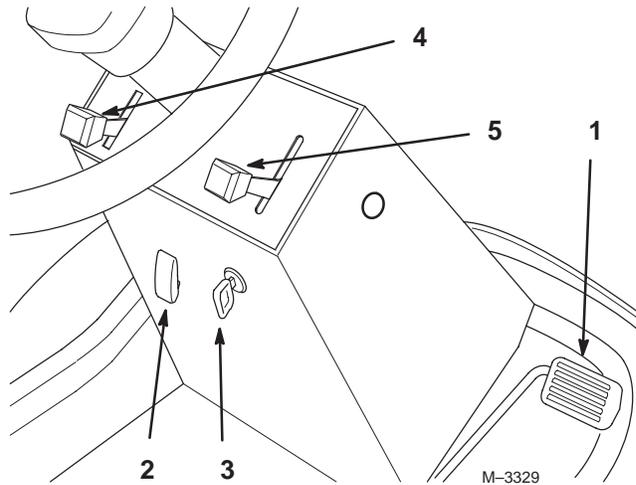

Figure 9
1. Move the throttle lever to slow (Fig. 9).
2. Turn the ignition key to off (Fig. 9).
1. Release pressure on the traction pedal to stop movement. (Fig. 9).
2. To engage lift cover and move the PTO switch to the on position (Fig. 9).
1. Closing the cover moves the PTO switch to the off position (Fig. 9).
1. To go forward, place your foot on the traction pedal (Fig. 9).
3. Slowly press on the upper pad of the traction pedal to move forward (Fig. 9).
1. To go backward, place your foot on the traction pedal (Fig. 9).
3. Slowly press on the lower pad of the traction pedal to move rearward (Fig. 9).